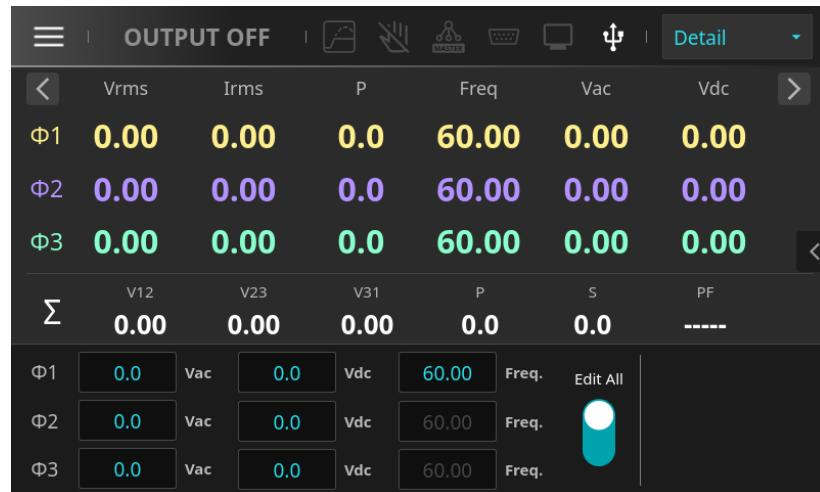

Figure 4-29: Three-Phase Mode Main Screen (Same Freq)
4. Tap the Home button  to return to the main screen. As shown in Figure 4-29, the frequency of all three phases will now be the same.